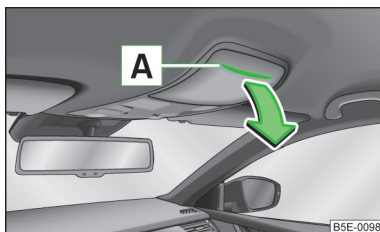

Fig. 68
- Press on the lid of the glasses storage box in the area **A** » Fig. 68.